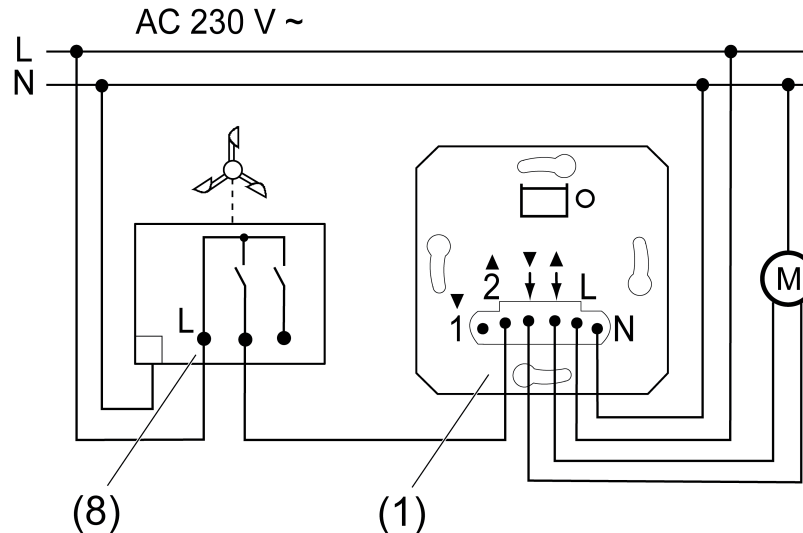

Figure 5: Connection example of wind sensor
- Connect the wind sensor (8) according to the connection example (Figure 5). The wind alarm is implemented via extension input 2.